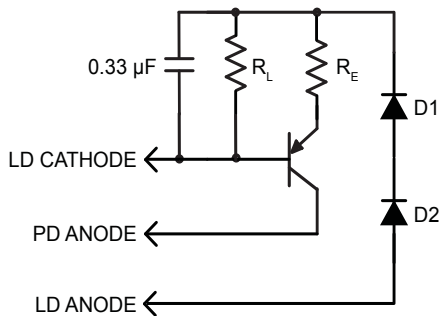
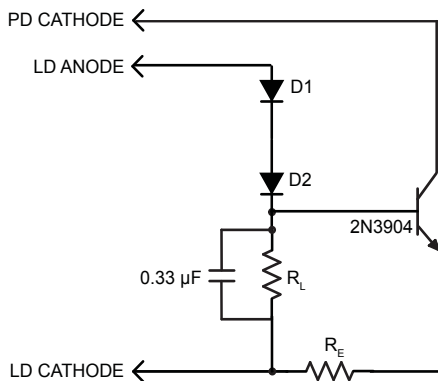

Figure 2. Test Load for a Laser Diode (Type A/B) in Constant Power Mode
Figure 3. Test Load for a Laser Diode (Type C) in Constant Power Mode
- Test load, for examples see **Figure 1** for Constant Current and **Figure 2** and **Figure 3** for Constant Power
To test or understand the photodiode feedback and current monitor circuits, you can replace the constant current test load with one specific to constant power mode. The circuits in **Figure 2** and **Figure 3** vary simulated photodiode feedback current as laser diode output current changes.
1. With the settings maintained from testing in Constant Current mode, attach a test load to the LDA, LDC, and the Photodiode Anode (PDA) (see **Figure 2** and **Figure 3**).